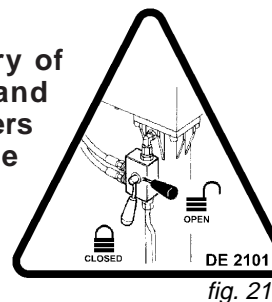

fig. 21
- Open the taps of the valves placed on the outrigger rams (fig. 21).